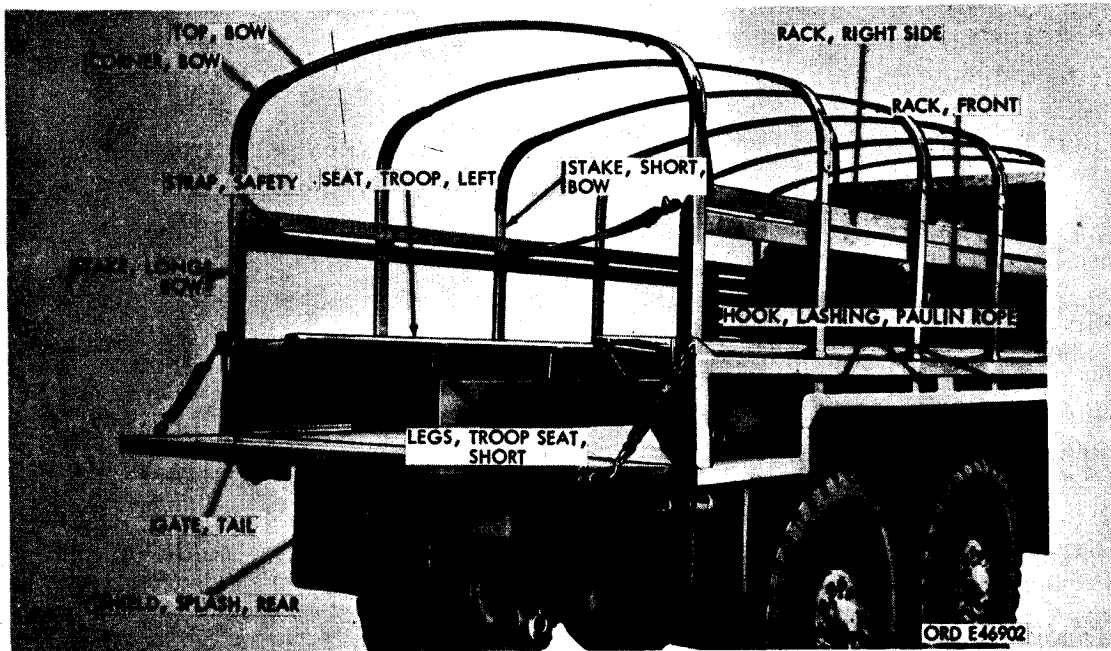

Figure 57. Right rear view of cargo body.
The open top metal body is mounted on the frame behind the cab. A paulin and two end curtains supported by six bow assemblies provide weather protection. Removable front and side racks include tubes for the six top bows. The removable bows are made of wood with metal reinforcements. Troop seats, incorporated in side racks, can be lowered and supported on hinged legs. Lashing hooks and red-amber reflectors (fig. 57) are bolted to the body. The tailgate is hinged
a. General. The body assembly (fig. 57) consists of body, front and side racks, side rack etc.
j. Bow Assemblies (Fig. 57). Remove screws and nuts holding bow corners to bow
b. Troop Seat Assemblies (Fig. 57). Position troop seat assembly on side rack and install six hinge pins attaching seat to rack. Install six 3/32 x 3/4 cotter pins holding hinge pins in place. Raise seat and engage seat clamp to hold seat to rack.
- (1) All six bow assemblies are installed in the same manner. The first, second, and rear bows are longer than the three intermediate bows. Engage ends of bow assemblies (fig. 57) in tubes in side racks and push down on bows to fully seat ends in tubes.
- (2) Place paulin front and rear curtains in position on front and rear end bow
63. Cargo Body (Fig. 57)